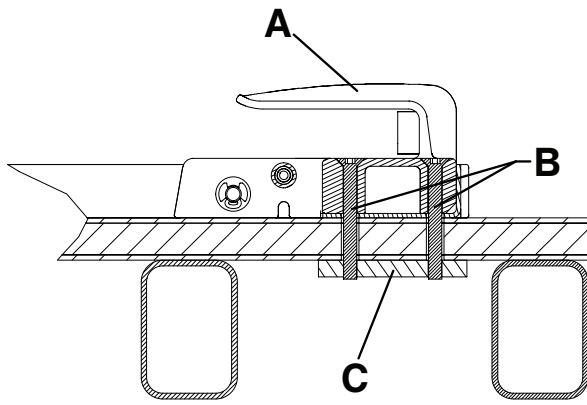
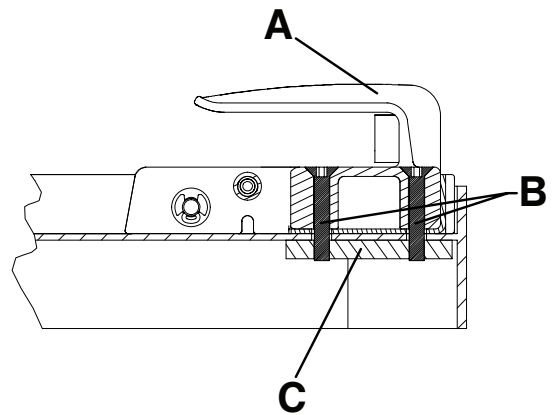

Figure 9 – Floor mount head end - View 4A
Figure 10 – Tray mount head end - View 4B
- A steel backing plate (C) (or equivalent) is required for added support (not supplied) (Figure 9 or Figure 10).